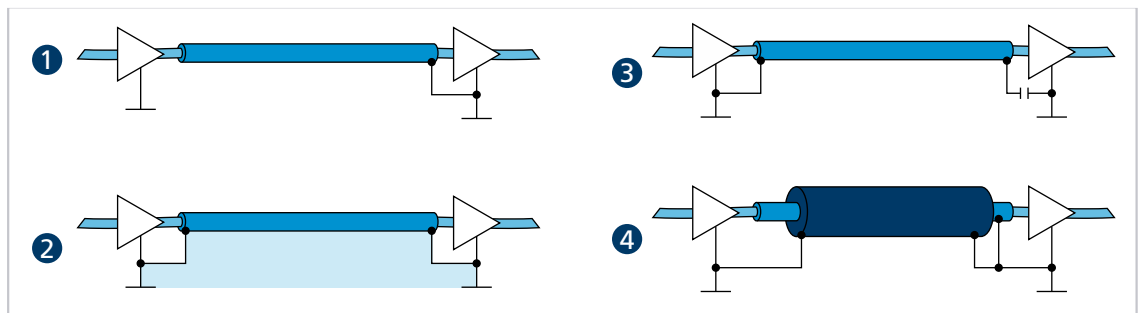

Fig. 19: Various possibilities for the shield connection
- ▶ Lay the motor phases in a shield, separate from the sensor or encoder signals, and connect on at least the motor side (see 1 or 2 in Fig. 19).
The sensor signals can optionally be laid with the motor phases in a shared cable/insulation hose using another outer braided shield. This outer braided shield must be connected at both ends (e.g., 4 in Fig. 19). A solution such as 2 in Fig. 19 is not functional in every case for this configuration. If this is not possible by means of a ground offset, establish the RF connection via specially suited capacitors (e.g., safety capacitors such as Y1/Y2/X1/X2, see 3 in Fig. 19). In this case, do not connect the shield multiple times except at the motor connection and controller side.